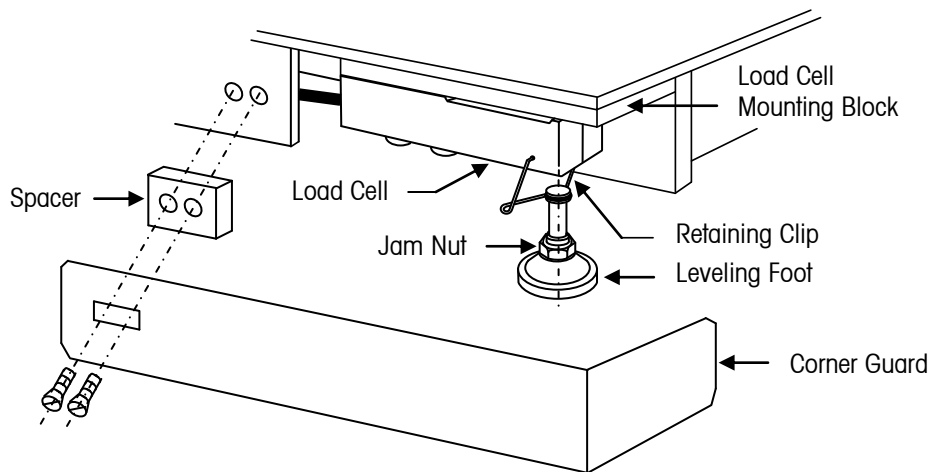

Figure 3-1: Leveling Foot Assembly
1. Remove the corner guard from each corner of the scale (see Figure 3-1).